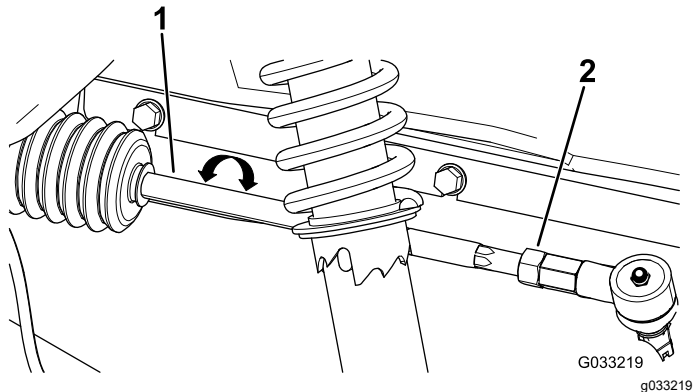

Figure 59
3. If the measurement does not fall within 0 to 6 mm (0 to 1/4 inch), loosen the jam nuts at the outer end of the tie rods (Figure 59).